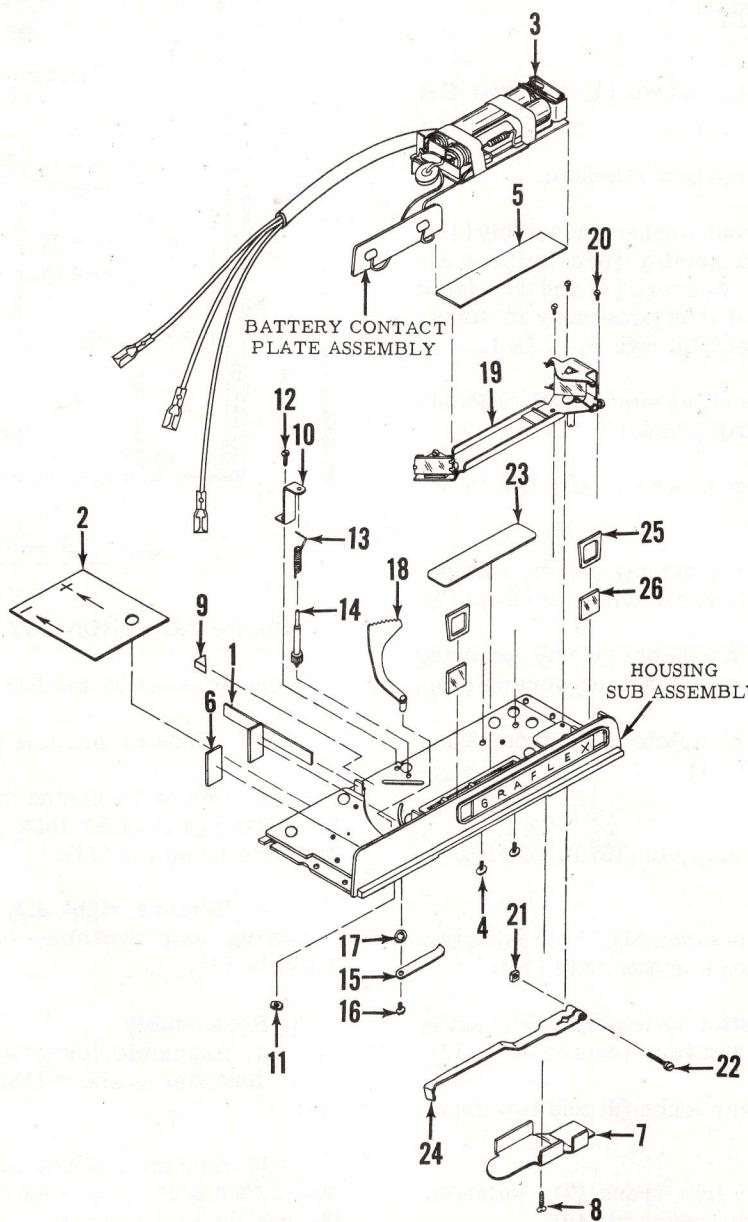

Figure 10. RANGEFINDER HOUSING COMPLETE
V. RANGEFINDER HOUSING COMPLETE - DISASSEMBLY AND REASSEMBLY (Figure 10)
- Remove cemented battery partition (1) and guard (2).